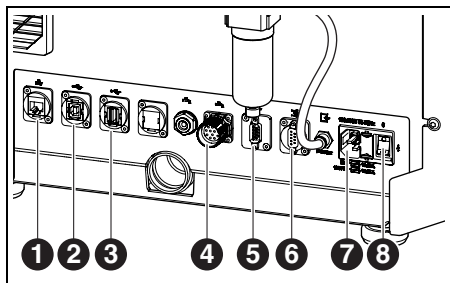
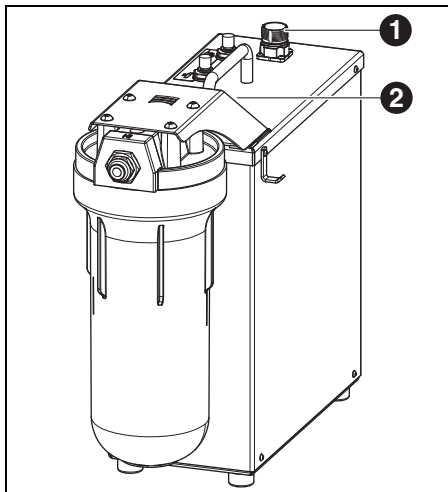

Fig. 11 Interfaces on the rear side of the processing machine
Fig. 12
- ▷ Connect the control cable to the control interface for the pump unit on the rear side of the processing machine ([4] in Fig. 11) and to the pump unit ([1] in Fig. 12).
- ▷ Connect interface at tank ([3] in Fig. 5) with pump unit ([2] in Fig. 12).
- ▷ Connect a USB cable to the USB-B port ([2] in fig. 11) of the processing machine and to a free USB port of the PC.
- Connect the Ethernet interface ([1] in Fig. 11) of the processing machine with the PC or with the network using a network cable.